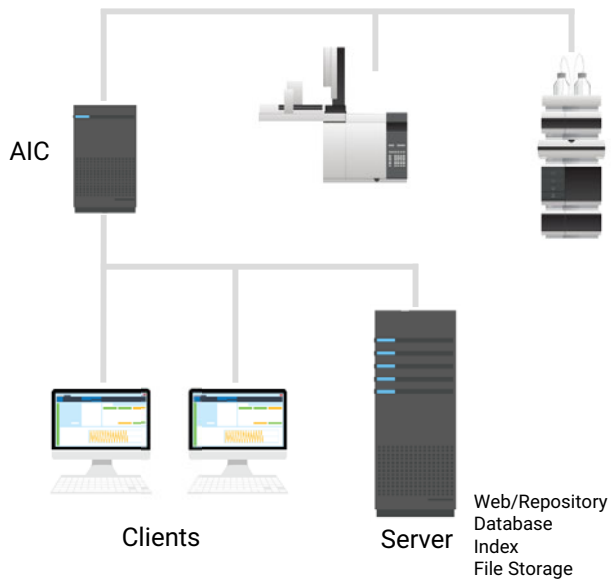

Figure 2 All-in-one topology: Clients and AIC link to one server
- ✓ 1-server all-in-one system (see Figure 2 on page 11),